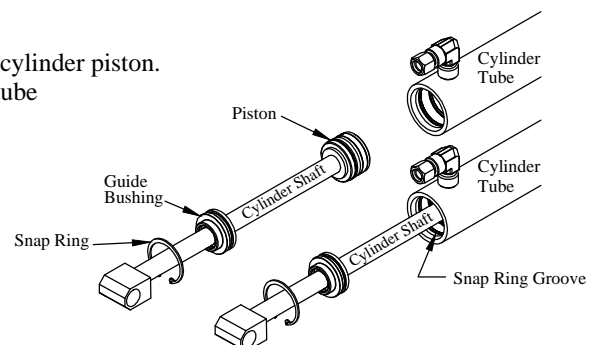

Figure 8: Cylinder assembly.
3. **INSTALL** the piston into the cylinder tube (Figure 8).
4. **INSTALL** the guide bushing into the cylinder tube (Figure 8).